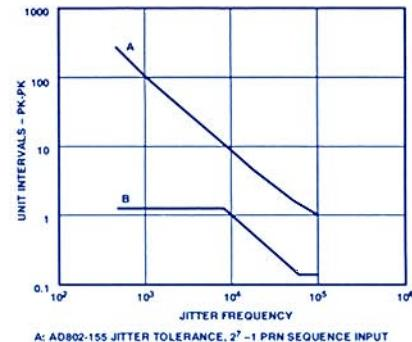

Figure 5. Jitter tolerance in unit intervals as a function of jitter frequency.
Jitter tolerance measures the PLL's ability to track a jittery input data signal. As jitter on the input data increases, measured in *unit intervals* (or bit periods), the PLL starts to make errors. Figure 5 shows the jitter tolerance (A) and the standard tolerance "mask", or limit (B), plotted as unit intervals vs. jitter frequency.